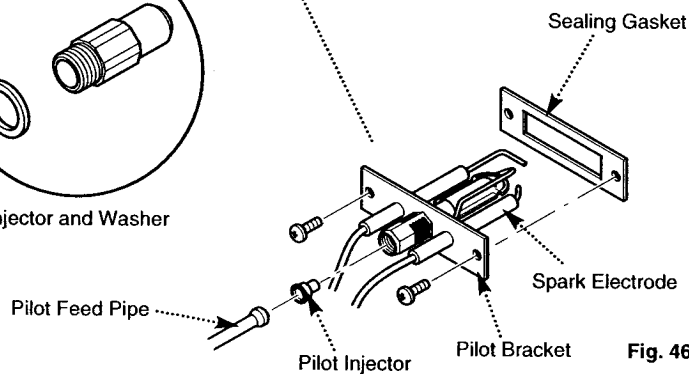

Fig. 46
4. The new pilot assembly must be fitted as shown, with the spark electrode to the right (Fig. 46).